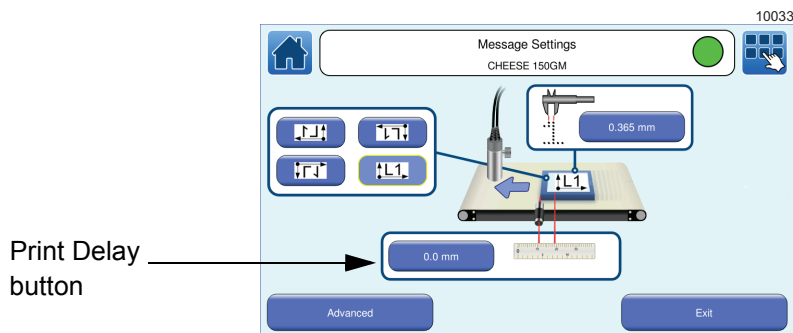

Figure 13. Message Settings screen: Print Delay
- 1 On the Home screen, touch the **Message Settings** button to display the **Message Settings** screen. The current Print Delay value is shown on the Print Delay button (see Figure 13):